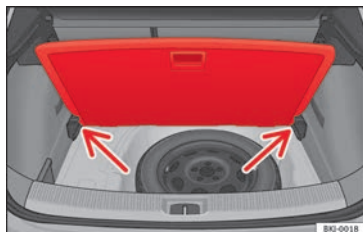

Fig. 167 Luggage compartment variable floor: sloped position.
- Lift the variable floor using handle ①, pull it up and push it towards the backrest of the rear seats until the floor folds along the hinge line and the movable part of the floor is resting on itself.
- Rest the floor on its housings »» Fig. 167 (arrows).